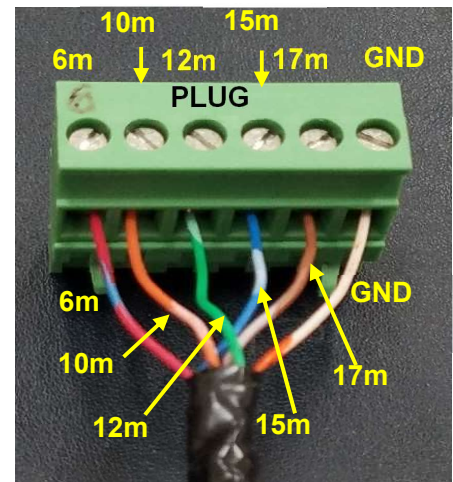

FIGURE 105
6. A 6-position wired plug should resemble that of **FIG. 105**.
NOTE: Both finished 6-position PLUGS should look similar to FIGs 105 and 106.